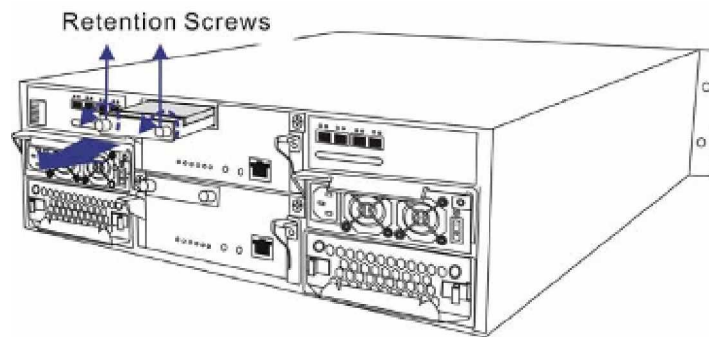

Figure 5-9: Removing the BBU
- Step 1. Remove the faulty BBU from the chassis.** Loosen the two (2) retention screws located on both sides of the BBU, then pull out the BBU. (See *Figure 5-9*)